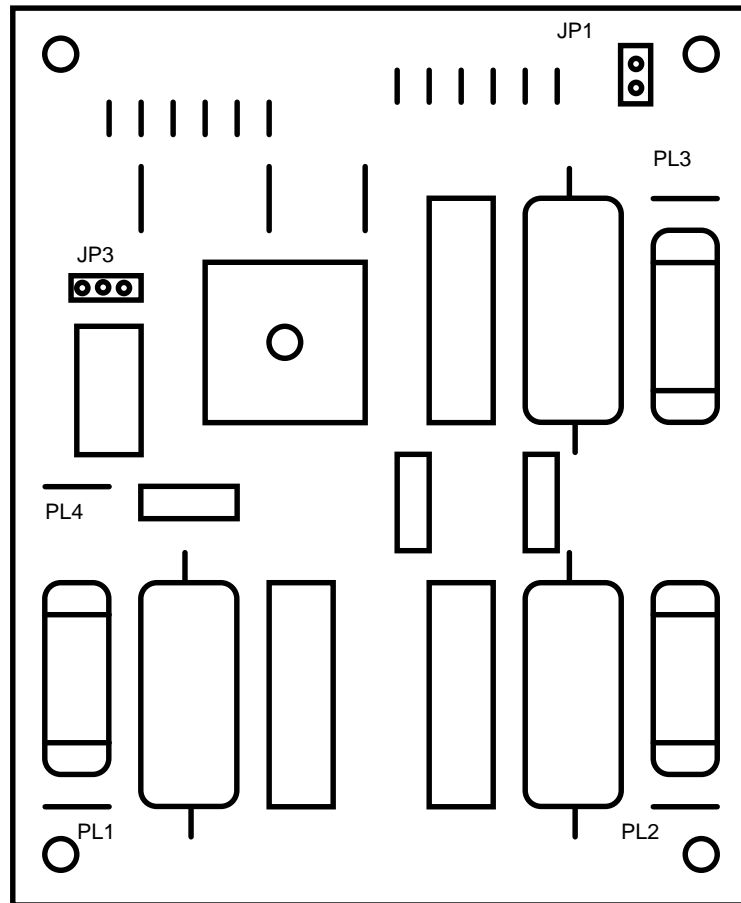

Figure 9.3 - Line suppression PCB
5. The line suppression PCB is located inside drive enclosure beneath hinged panel and can be visually identified as shown in figure 9.3.